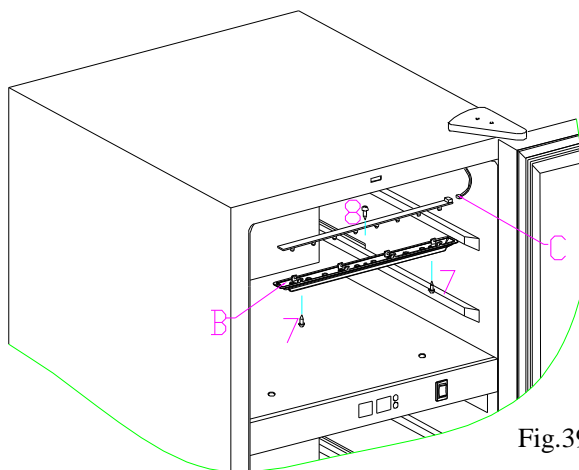

Fig.39
A. How to replace the LED light in upper zone (Fig.39)